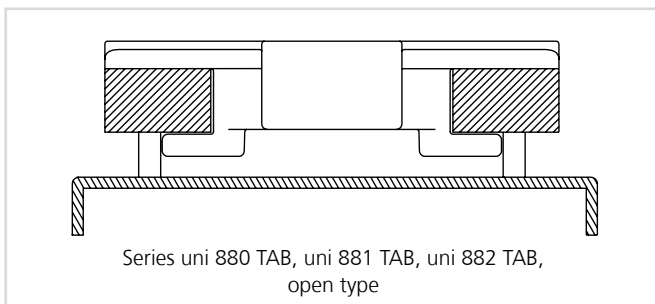

Fig. 3-45
- For Tab-chains the shape of the track is the same in the carry and return profile. Fig. 3-45.